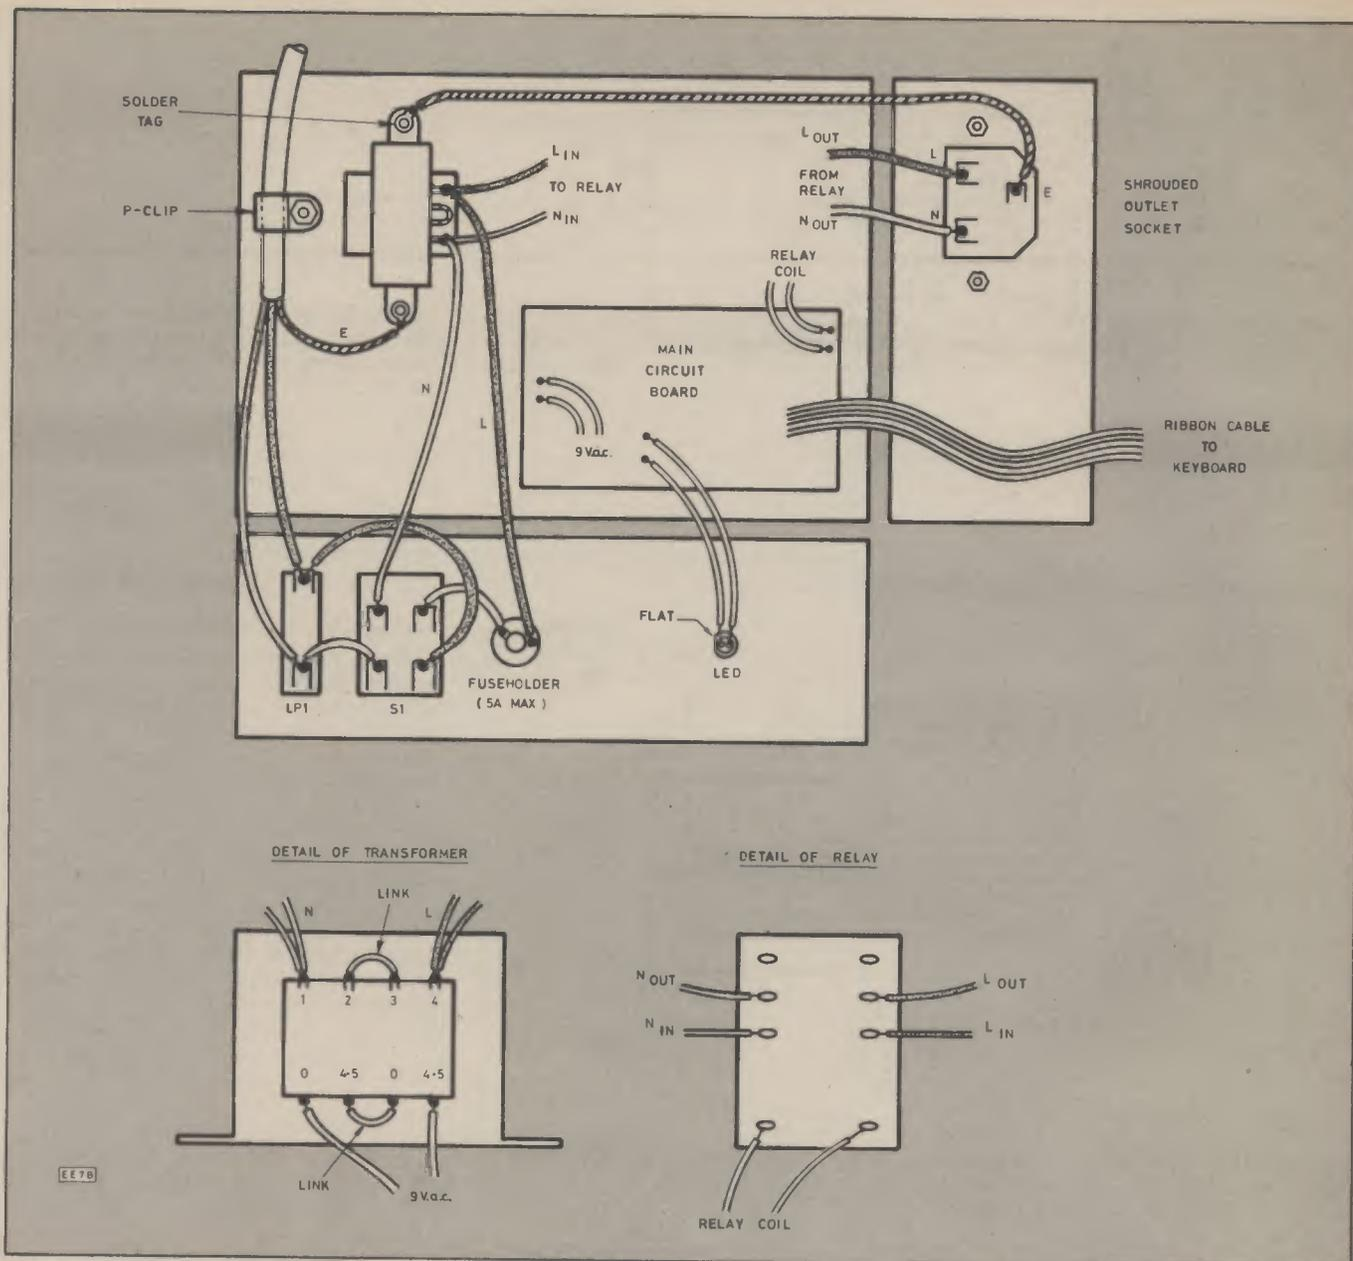

Fig. 8. Codelock wiring diagram.
**FINAL ASSEMBLY:** Once LP1, S1, the fuseholder FS1, and the transformer T1, have been fitted, the major part of the mains wiring can be carried out (Figure 8). Constructors are advised to check carefully that this is completed correctly. Next, fit RLA1, the output socket SK1 and the main circuit board together with its flying leads. When the board is bolted in position these leads are cut to the correct length, stripped, and soldered to